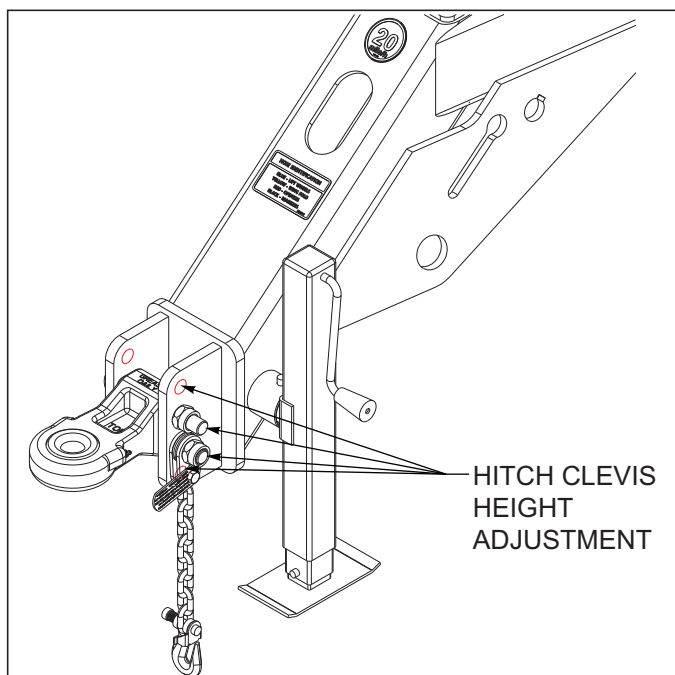

Figure 4-3: Hitch Clevis Height
1. The hitch clevis height should be adjusted to match the drawbar height of the tractor. This will allow the hitch to operate through its most efficient range and level throughout the field *See Figure 4-3.*